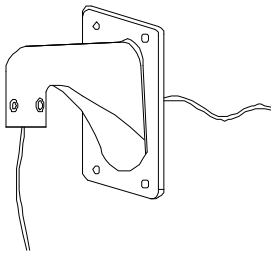

Figure 24
- 7) Take out the cover of the wall-installed bracket(Figure 24)